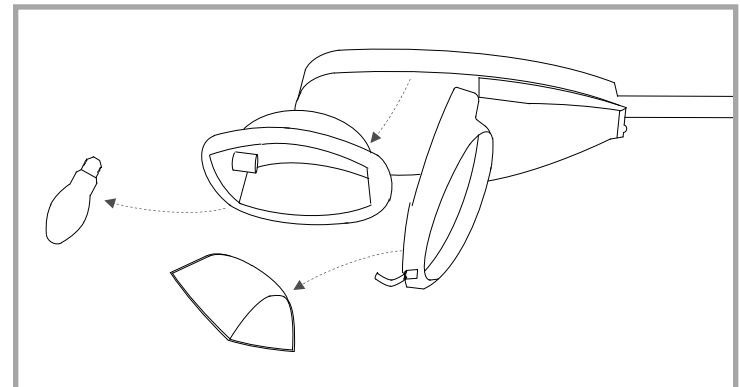

Figure 2: Remove & recycle the existing lamp, reflector & lens.
Step 2: Remove & Recycle The Existing Lamp, Reflector & Lens (Figure 2)